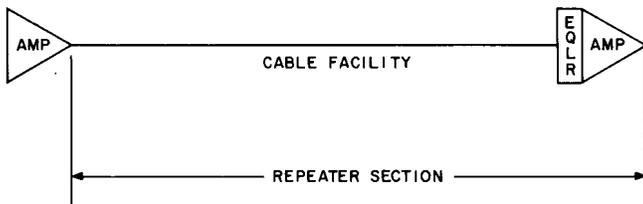

Fig. 3—Repeater Section
2.01 The application guidelines which are given in the following paragraphs for the 4-4 and 2-4 terminal MFT repeaters apply to single-repeater sections as shown in Fig. 3. The gain and equalization values are determined on a repeater section as shown.